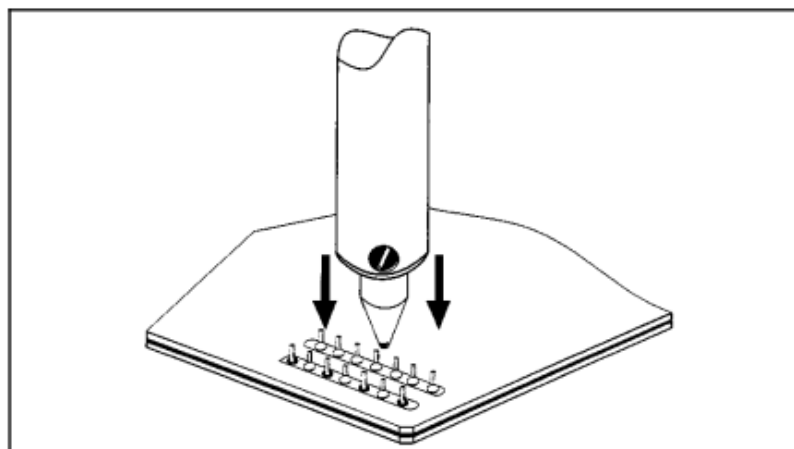

Figure 2 Position Tip
9. Tin tip with solder. (See Figure 2.).